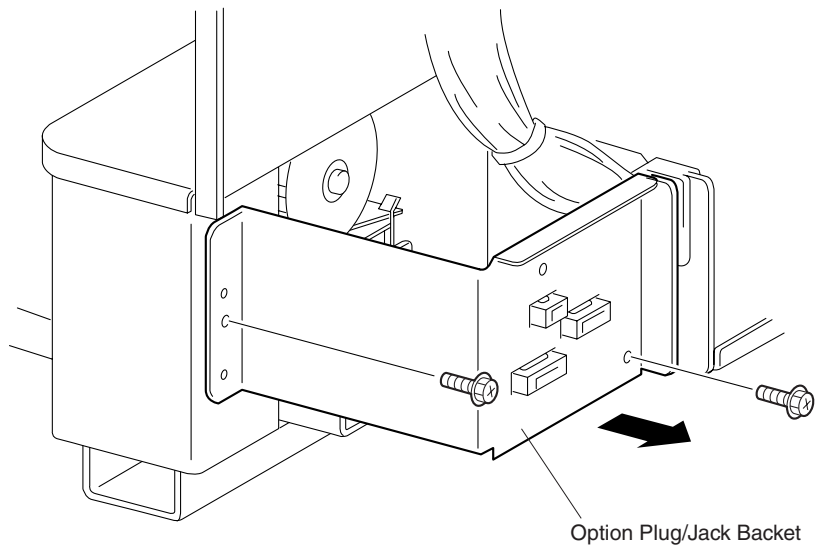

Figure 1
3. Remove the five screws securing the Bottom Cover to the Tray and remove the Bottom Cover (Figure 1).
3. Remove the two screws securing the Option Plug/Jack Bracket to the rear of the printer frame and pull the Bracket away from the frame so you can access the Feed Solenoid (Figure 1).